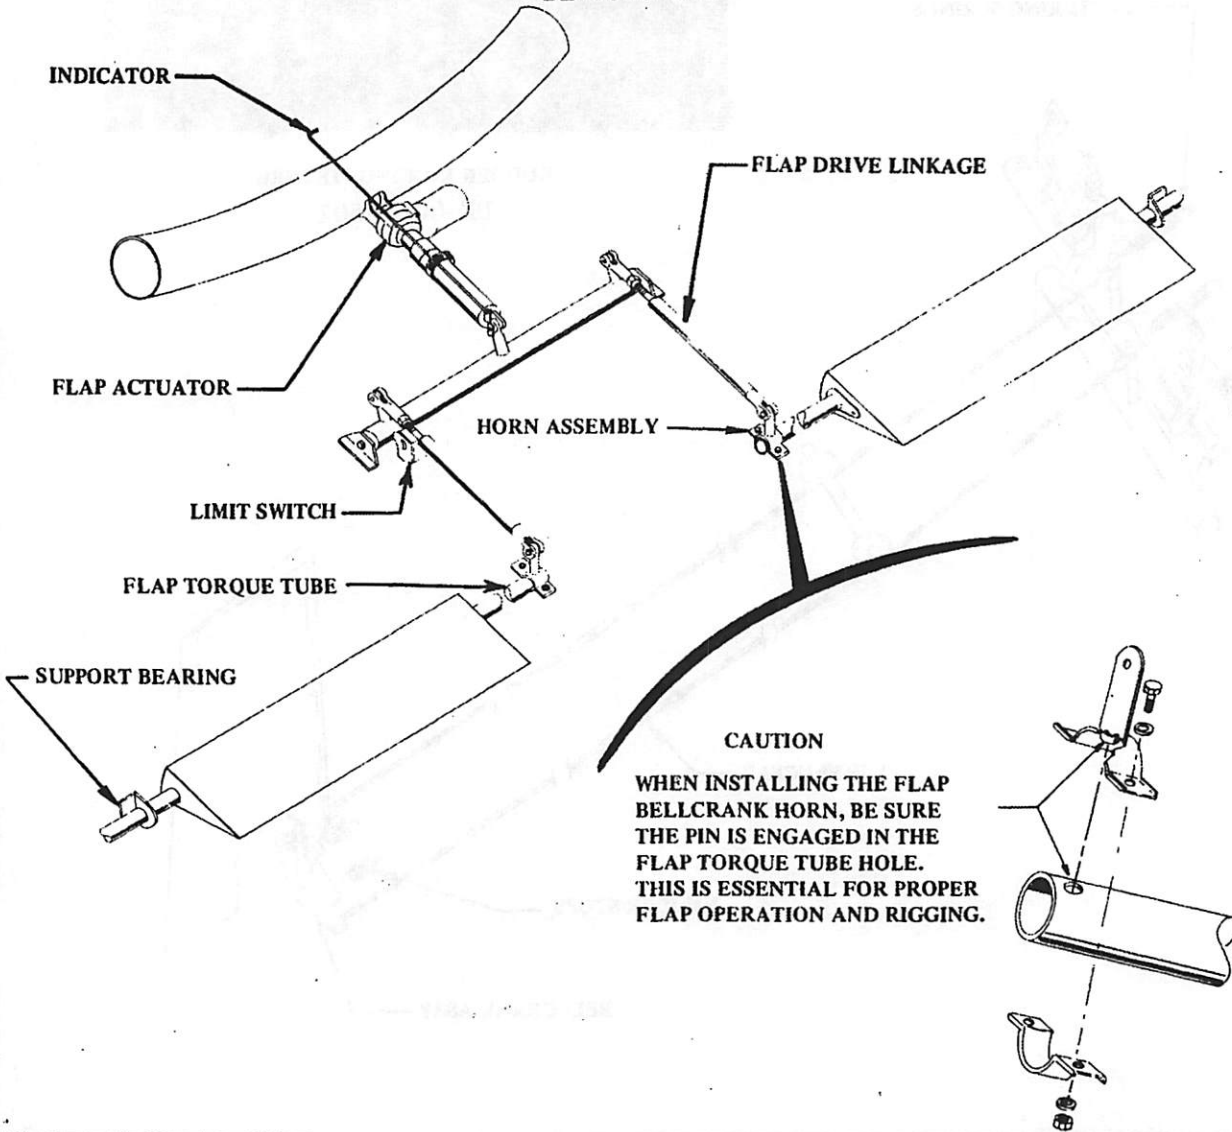

Figure 5-5 Flap System
The flaps are located on the inboard trailing edge of each wing and actuated by the flap motor. The flaps, when lowered, provide a nose-down attitude and a slower landing speed. The flaps are controlled by a flap switch mounted on the center console. The flaps are limited in the full up position by a limit switch mounted adjacent to and activated by the flap linkage (Figure 5-5).
- a. Lower the flaps to $30^\circ \pm 2^\circ$ as indicated by a flap rigging fixture. Any required adjustment should be made to the clevis on the flap linkage, located behind the seats (See Figure 5-5).